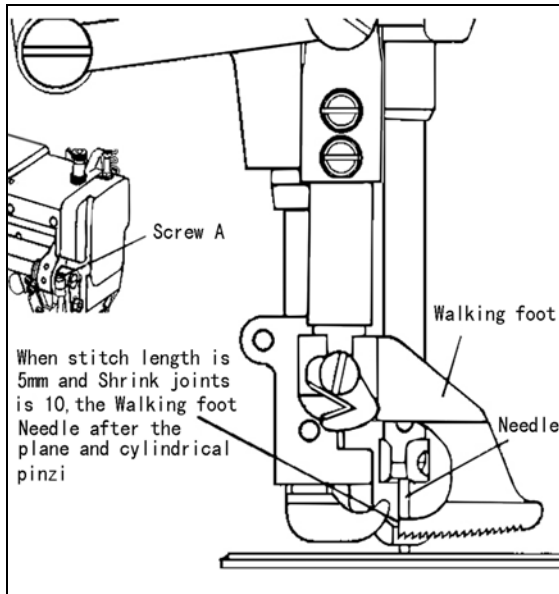

Fig. 43
### 37、 Adjustment of front back positions for presser foot (Fig.43)
2) Release the bolt A, put the foot after the external pressure placed on the plane with machine needle cylindrical Pinzi position (as shown in Figure 43), tighten the screw A